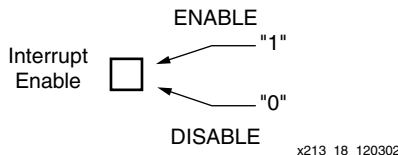
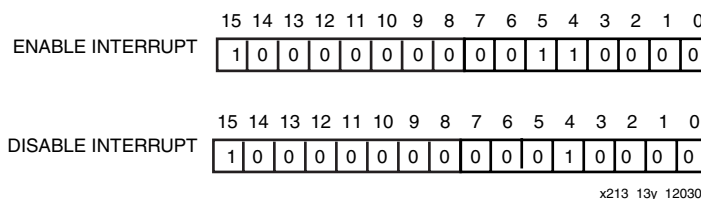

Figure 19: **ENABLE/DISABLE INTERRUPT** Instruction
Figure 20: **ENABLE/DISABLE INTERRUPT** Instruction Specification
These instructions are used to set and reset the INTERRUPT ENABLE flag (Figure 19). Before using ENABLE INTERRUPT (Figure 20), a suitable interrupt routine must be associated with the interrupt address vector (FF). Never enable interrupts while performing an interrupt service routine.